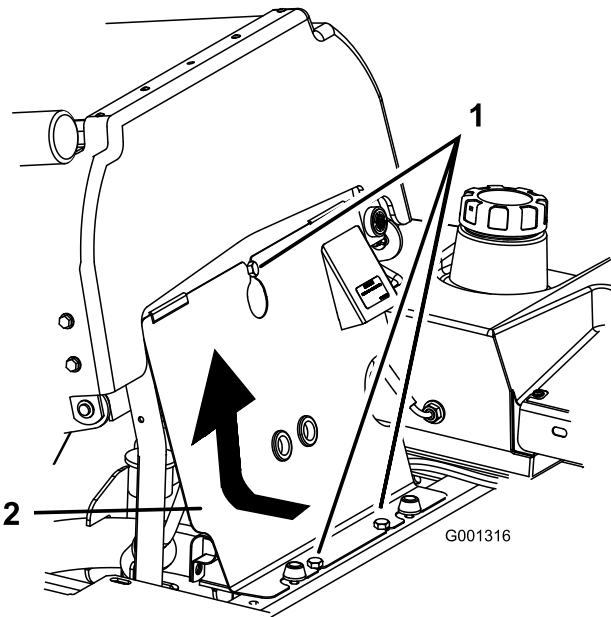

Figure 58
3. Tilt the seat forward, loosen the bolts and remove the front engine panel (Figure 58).